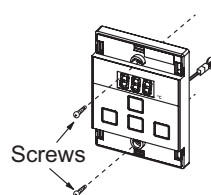

Fig. 3
6. Fix the water controller to the wall using the appropriate fixings (Fig. 3).